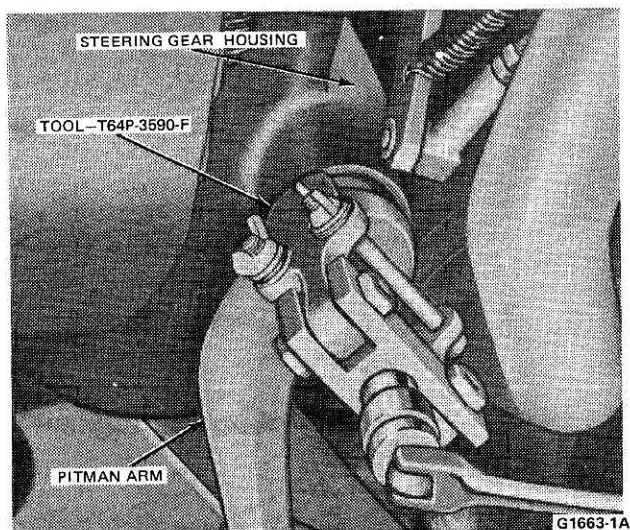

FIG. 4 Removing Pitman Arm
1. Disconnect the linkage from the gear by removing the Pitman arm from the sector shaft (Fig. 4).
2. Remove the nut and lock washer that secures the Pitman arm to the sector shaft. On vehicles equipped with power steering, the power cylinder mounting bracket must be removed and the power cylinder assembly lowered to provide access for the removal tool. Using Tool T64P-3590-F (Fig. 4), remove the Pitman arm from the sector shaft. **Do not hammer on the end of the puller as this can damage the steering gear.**